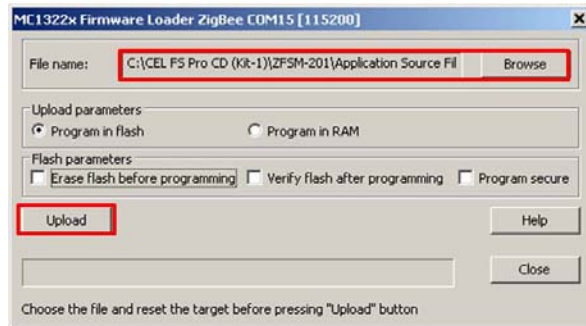

Figure 38 – Screen, FSTT – Selecting the binary File
- 7) Click the **'Browse'** button and find the binary (.bin) file to load. The .bin file that was originally loaded on the device is located on the CEL CD in the directory \ZF5M-201\Application Source Files\CEL_MAC_111_v1.3\CEL_MAC_111\Debug\Exe\ and is named CEL_MAC_111.bin. See Figure 38.
- 10) Click the **'Upload'** button in Figure 38.